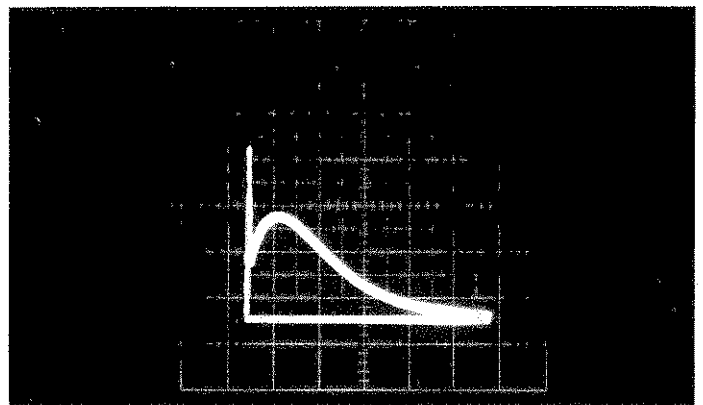
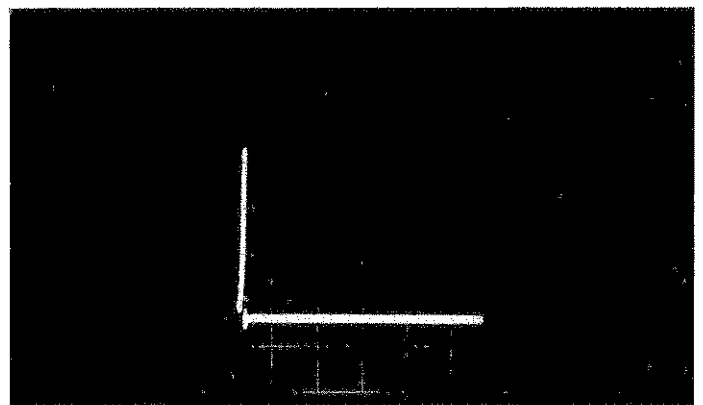
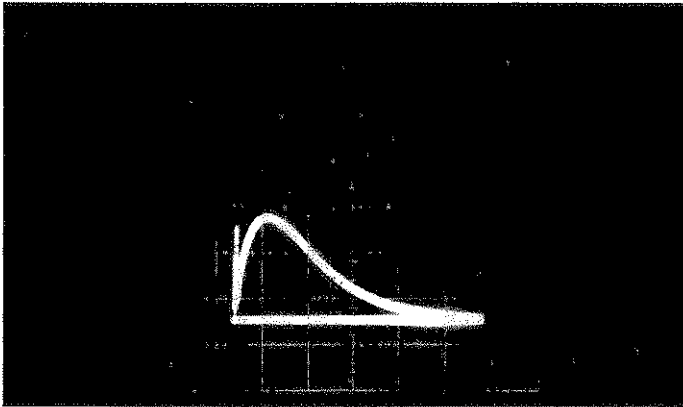

Figure 5A.
Figure 5B.
Figure 5C.
Fig. 5A shows the voltage across the gap-resistor combination, for an applied Bi-Wave™ — i.e. for the $1.2 \times 50 \mu\text{s}$, 6 kV open-circuit voltage, $8 \times 20 \mu\text{s}$, 3 kA short-circuit current surge described by IEEE Std 587-1980 (2). Because of the steepness of the leading edge of the voltage wave, the gas tube doesn't break over until 1500 volts. Thereafter, the 3 kA, $8 \times 20 \mu\text{s}$ surge current flowing instantaneously after breakover develops a 900 volt surge across the .3 ohm resistor. (The gas tube arc voltage drop is a mere 20-30 volts.) The resulting voltage surge remnant passed on to the Equipment Being Protected has a high peak voltage and is capable of delivering significant energy, on the order of 10 to 15 joules.
By contrast, if instead of using the Bi-Wave surge, tests are made with separate, typical voltage and current surges, results will be as shown in Figs. 5B and 5C respectively.* For a typical separate voltage surge test with a $1.2 \times 50 \mu$ s shape but only 10 A current capability, for example, Fig. 5B shows the resulting remnant.
Fig. 5C shows the remnant for a typical separate current surge test with 3 kA, $8 \times 20 \mu$ s (short-circuit) current wave-shape, but only 2.4 kV open-circuit voltage compliance. (The compliance of other, separate current surge testers can be even lower.)
For the voltage surge case of Fig. 5B, the peak value of the remnant passed on by the protector is the same as for the Bi-Wave remnant of Fig. 5A. However the energy is comparatively small, since current available after breakover is only 10 A for the voltage test, compared with 3 kA for the Bi-Wave.
For the current surge case of Fig. 5C, the 3 kA surge current, equal to that of the Bi-Wave, insures the same surge remnant energy. But the slower leading voltage edge (a $1.2 \times 50 \mu$ s wave has a slower front when its peak is 2.4 kV than when it is 6 kV), causes a lower gas-tube breakdown level.** The 800 V gas-tube breakdown in the example shown in Fig. 5C means that the highest voltage passed on to the Equipment Being Protected during the current test is $3 \text{ kA} \times .3 \text{ ohms}$, or about 900 V, versus 1500 V for the exemplary result of Bi-Wave application to the same protector, shown in Fig. 5A. The Bi-Wave remnant has both the high but narrow 1500 V peak, plus the high-energy, 900 V peak wave that follows it.
*For the same gas tube used in the example of Fig. 5A. Of course, different tubes may fire at different points; but the general conclusions will still usually apply.